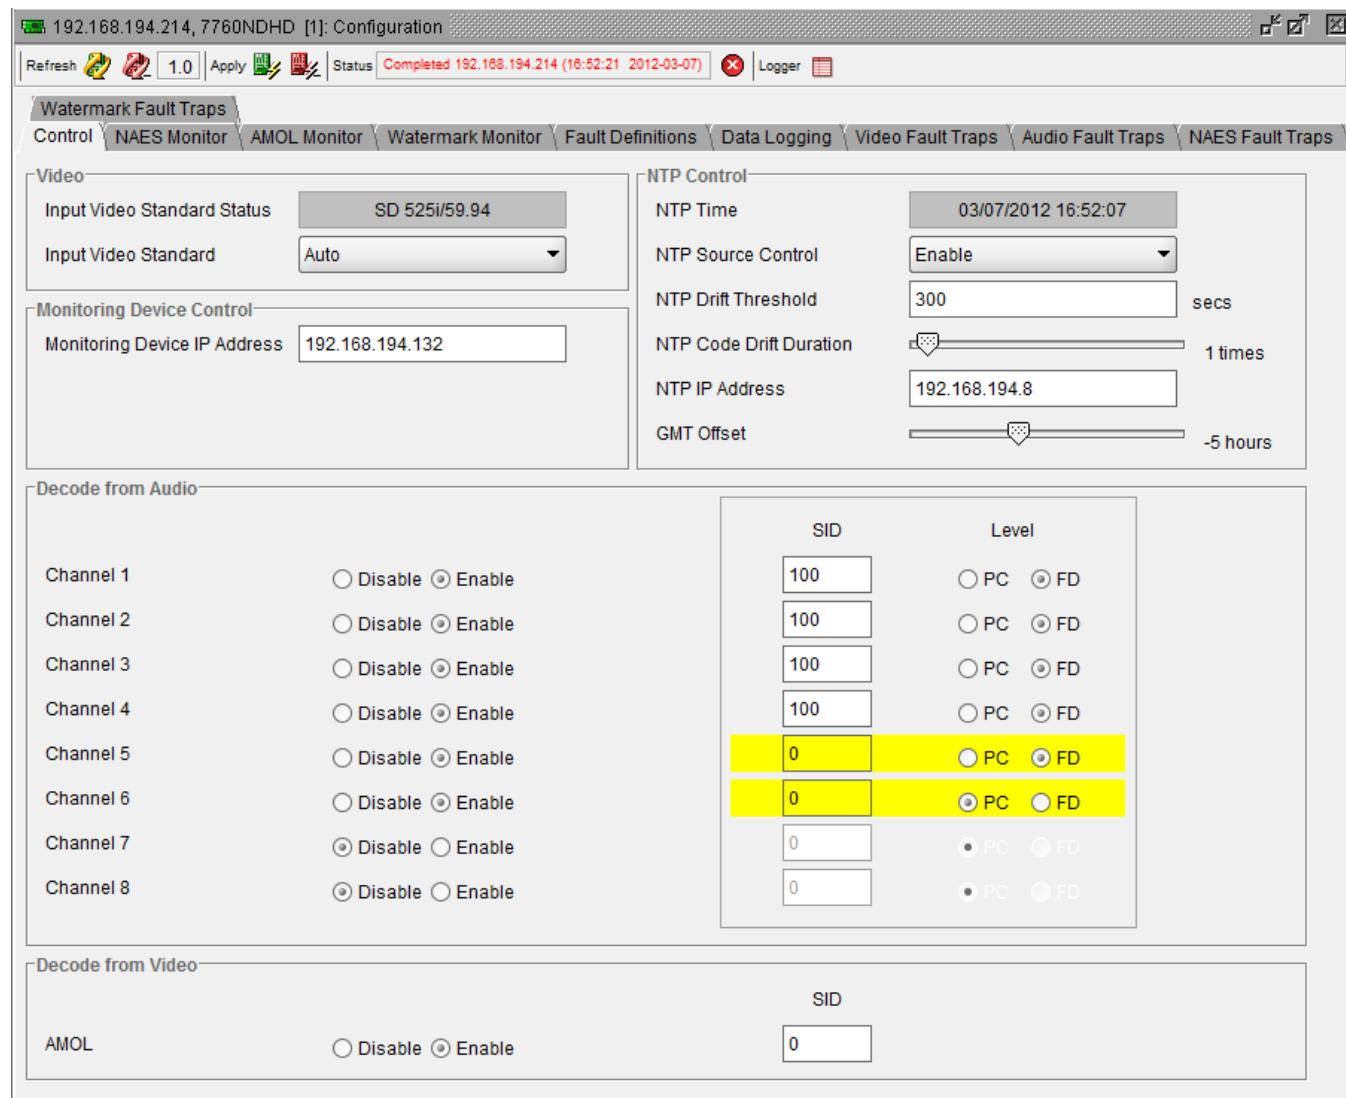

Figure 7-2: Main Configuration Screen
5. Once *View Configuration* is selected the user will be presented with the main configuration screen, as shown below in Figure 7-2.